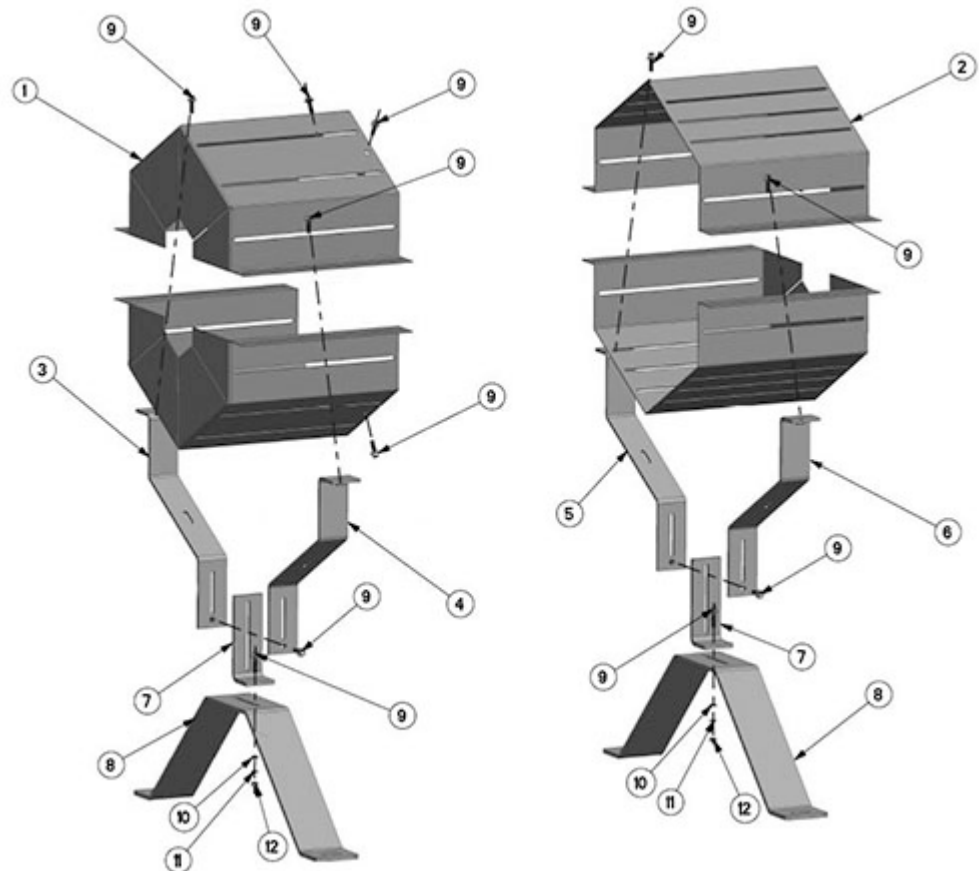

Figure 48: Coupling guard exploded view
1. Refer to Figure 48 for the following assembly instructions.